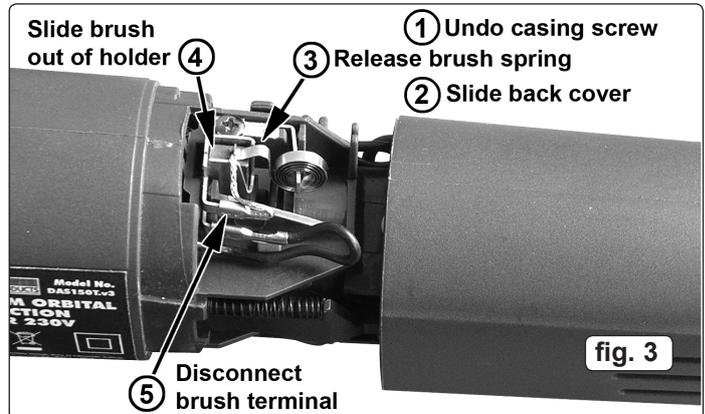

fig. 3
- 4.4. Check brushes every 200 hours of use. To access the brushes refer to fig.3. Undo the screw in the end of the motor casing (1) and slide back the cover (2). Using a small screwdriver lift the brush spring to one side (3) and slide the brush out of its holder (4). If the brush is worn to half of its original length it should be renewed. Using thin nosed pliers pull the brush connector off its terminal (5). Slide the new brush into its holder. Slide the connector onto the terminal (5). Position the spring so that it bears down onto the end of the brush. Remember to renew brushes as a pair. Slide